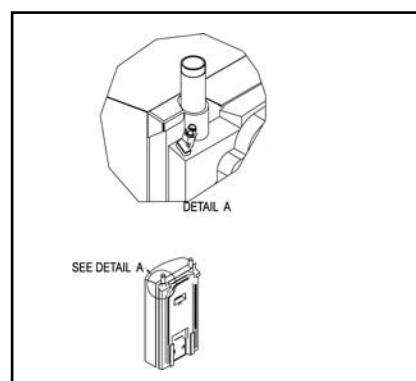

Fig. 13
3. Close the air supply(A, Fig 13)